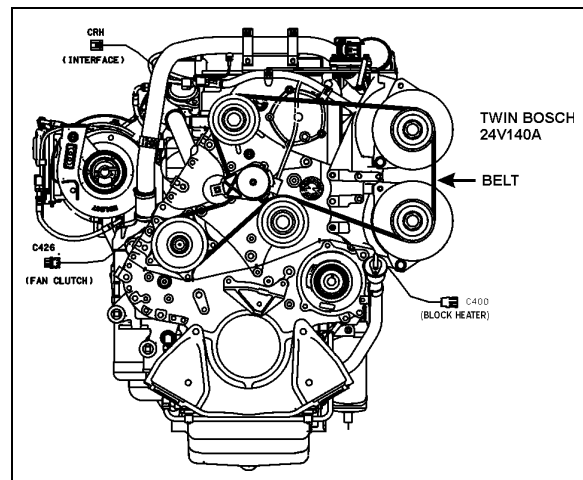

FIGURE 20: ALTERNATOR DRIVE BELT
1. Insert a $\frac{3}{4}$ " socket drive into the automatic belt tensioner opening (Fig. 20).